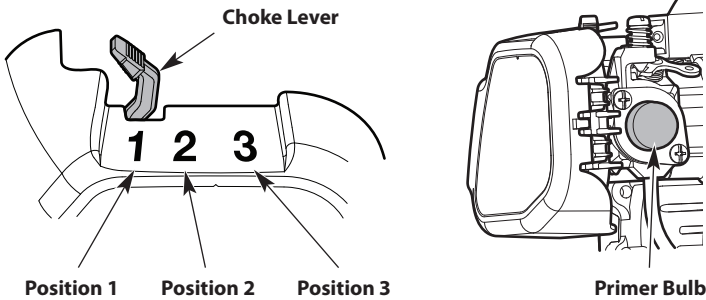

Fig. 13
1. Slowly press and release the primer bulb **10 times** (Fig. 13). If fuel cannot be seen in the primer bulb, press and release the primer bulb until fuel is visible.
2. Move the choke lever to **Position 1** (Fig. 13).
6. Move the choke lever to **Position 2** (Fig. 13).
9. Move the choke lever to **Position 3** (Fig. 13). Allow the engine to warm up for an additional 60 seconds. The unit may be used during this time.